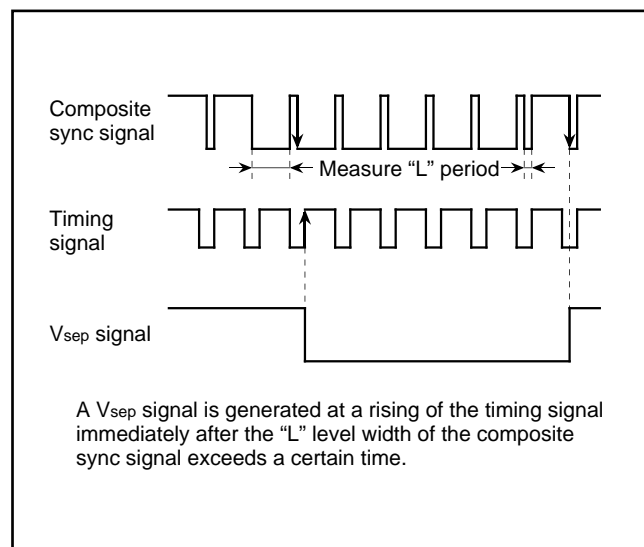

Fig. 22. Vsep generating timing (method 2)
- Method 2 The "L" level width of the composite sync signal is measured. If this width exceeds a certain time, it is detected whether a falling of the composite sync signal exits or not in the "L" level period of the timing signal immediately after this "L" level. If a falling exists, a Vsep signal is generated in synchronization with the rising of the timing signal (refer to Figure 22).
Figure 22 shows a Vsep generating timing. The timing signal shown in the figure is generated from the reference clock which the timing generating circuit outputs.